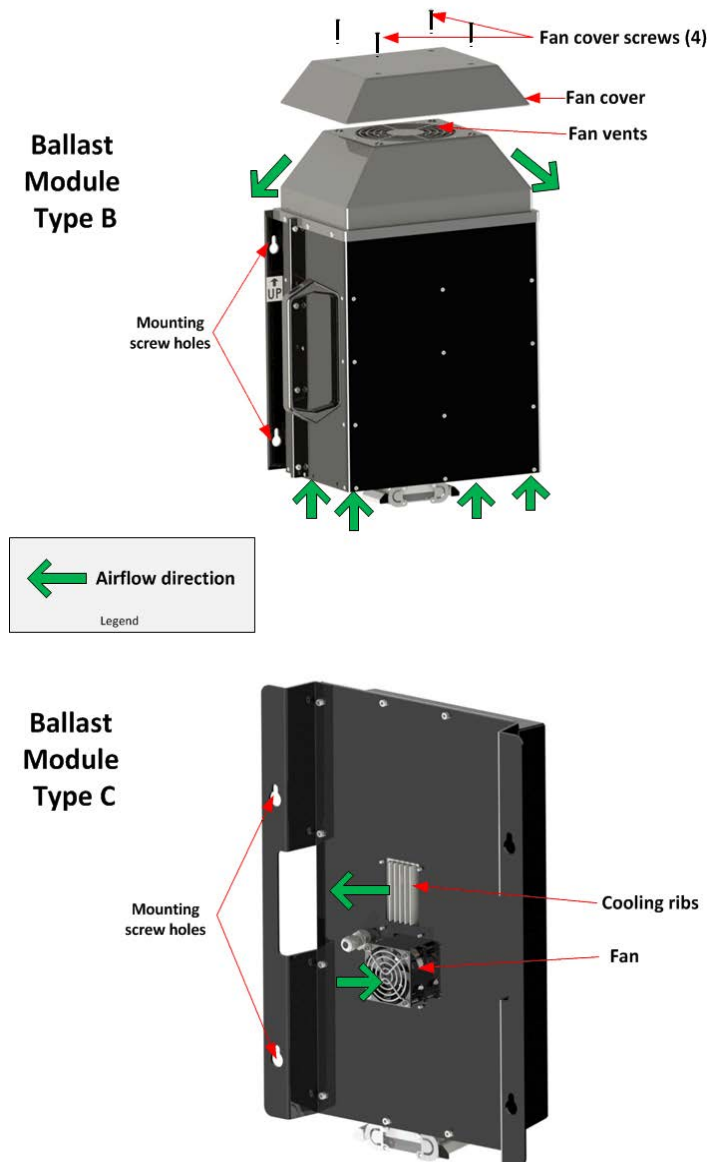

Figure 10-4: Accessing cooling fans
- Check that air is being blown out of the fans of the Ballasts Figure 10-4